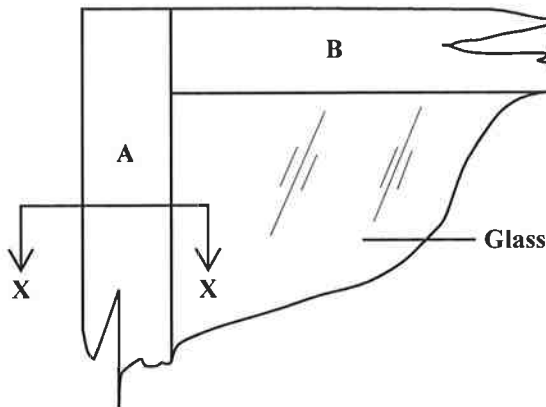

Figure 6. Partial elevation of a rebated cabinet door
- (d) Figure 6 shows the partial elevation of ONE corner of a rebated cabinet door.